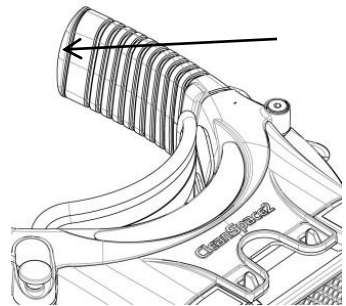

Figure 7 - Right Hand Blower AirClip
*Locate the right-hand blower AirClip. It is on the same side of the blower as the “Flow Test” button. See Figure 7.*